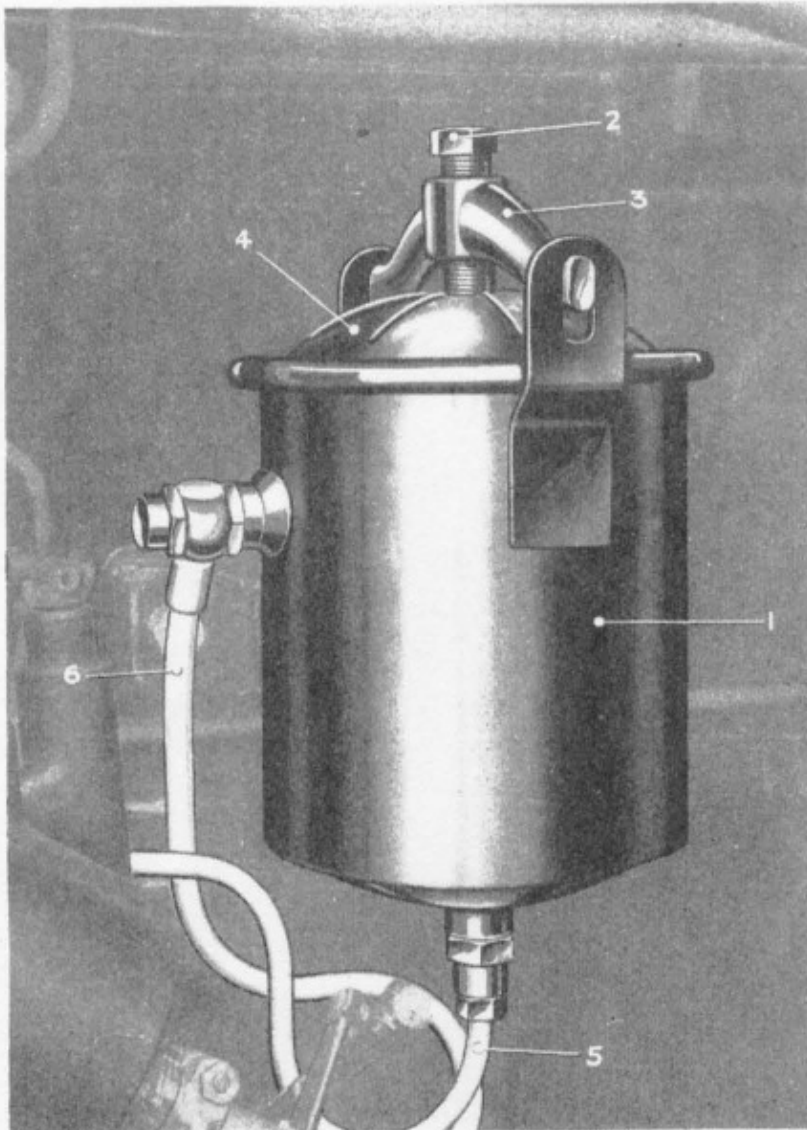

Fig. 9.—BY-PASS FILTER.
A special filter is provided on the right-hand side of the crankcase, as shown at (1, Fig. 9), which is fed with oil under maximum pressure from a bleed hole in the high-pressure oil gallery, via pipe (5). The filter element restricts the flow of the by-passed oil, and so ensures that the by-passing effect of the filter shall not appreciably rob the main pressure system.